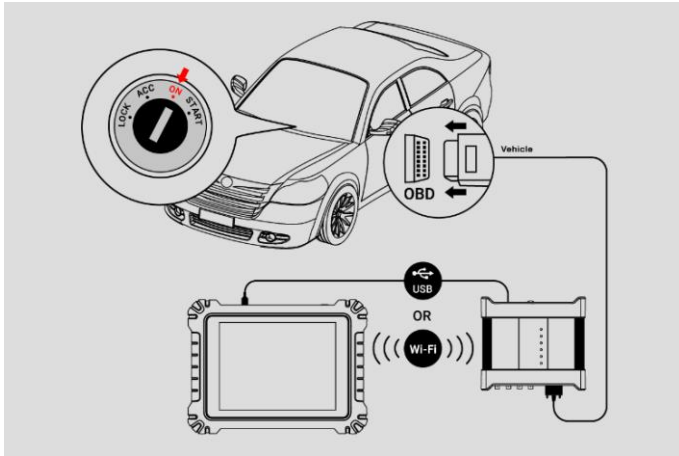

Figure 1-1 Sample Connection Diagram
1. Please refer to **Figure 1-1 Sample Connection Diagram** to complete the connection. Place the ignition in the key in position.